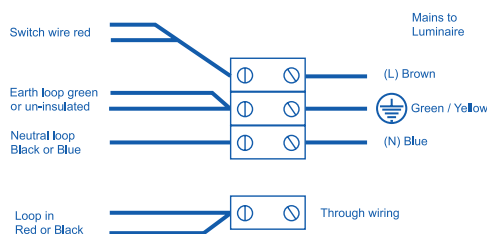

Fig.3
3. The “looping-in” of the fixed wiring supply should be maintained. See Fig. 3.